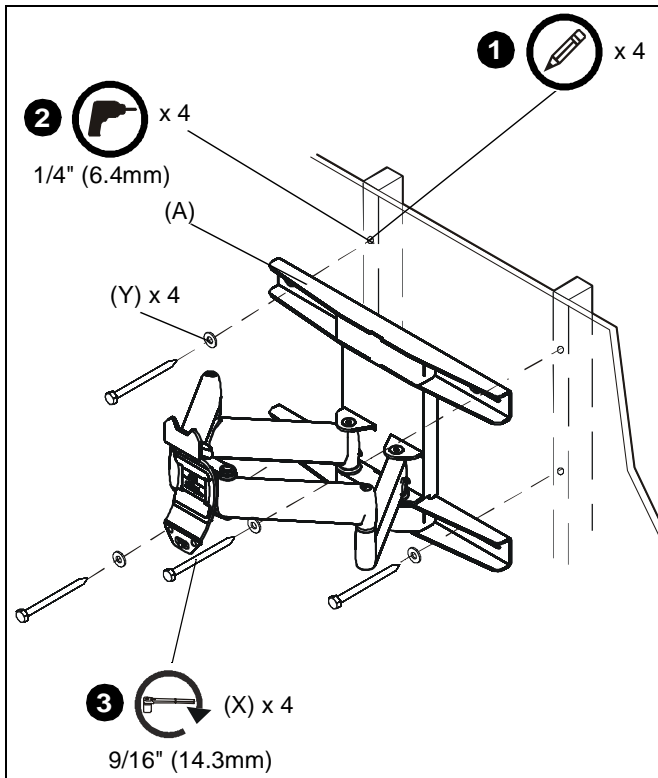

Figure 1
1. Level arm assembly/wall plate (A) and mark locations of pilot holes. (See Figure 1)
2. Drill 1/4" (6.4mm) diameter pilot holes into wood supports. (See Figure 1)
3. Install 3/8 X 2 1/2" lag screws (X) through flat washers (Y), arm assembly/wall plate (A), into wood supports. (See Figure 1)